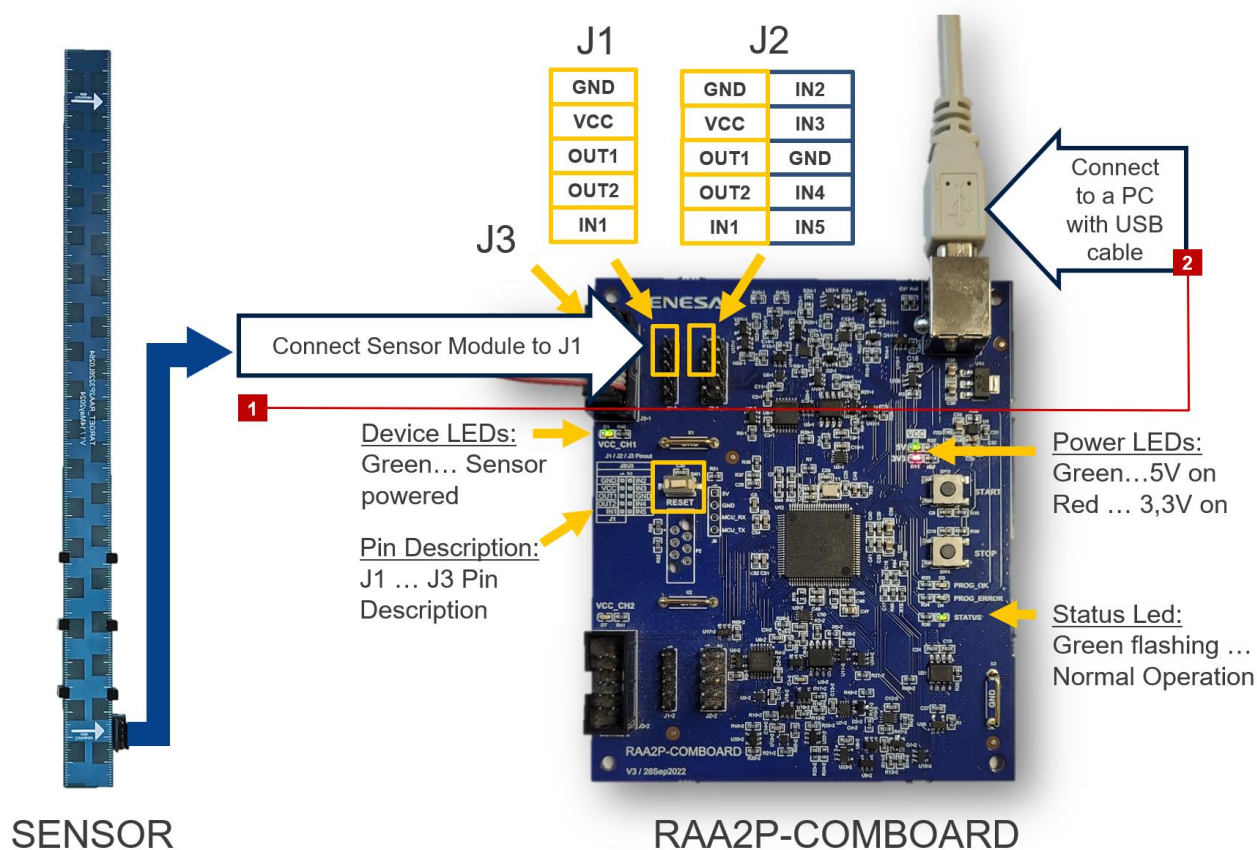

Figure 3. Evaluation Kit Connection Setup
1. Connect the sensor module P1 connector to the J1 header of the RAA2P-COMBOARD using the provided cable according to Figure 3